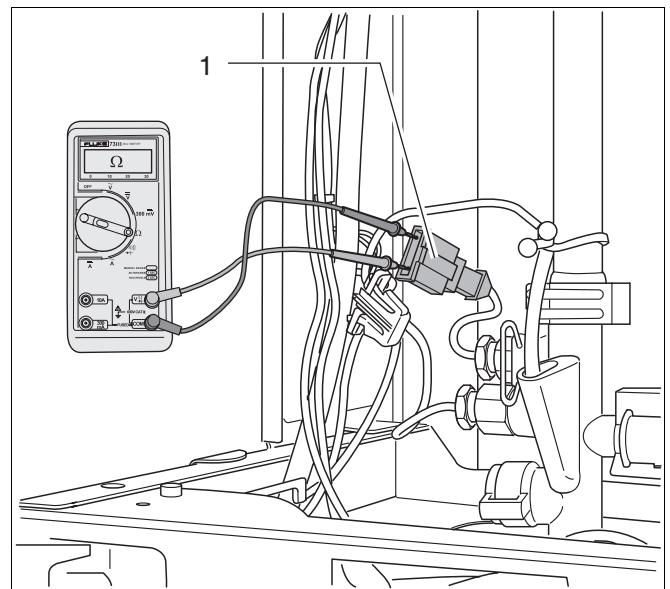

Fig. 61 Buderus 600 - 11R / 19R / 24R:
- Measure resistance of sensor (fig. 61, item 1).